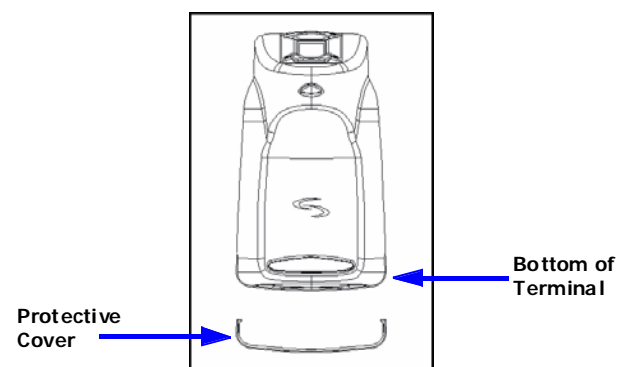

Figure C-1 Remove the Protective Cover from the Bottom of the Terminal
3. Remove the protective cover from the bottom of the terminal, an example of which is shown in **Figure C-1**.